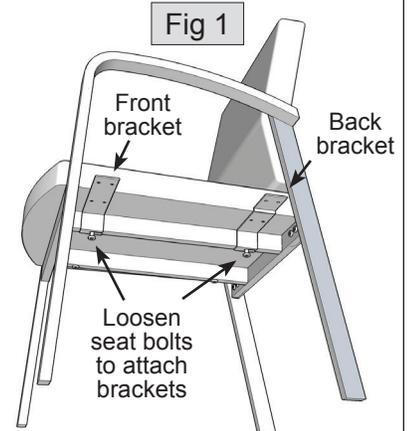

Fig 1
3. Use an Allen wrench to loosen the seat cushion bolts on facing sides of both chairs, as shown in figure 1.